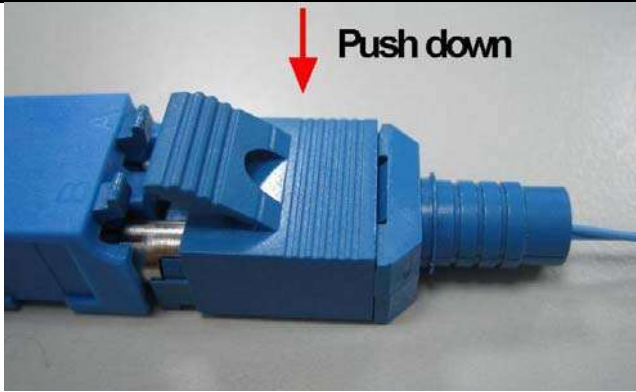
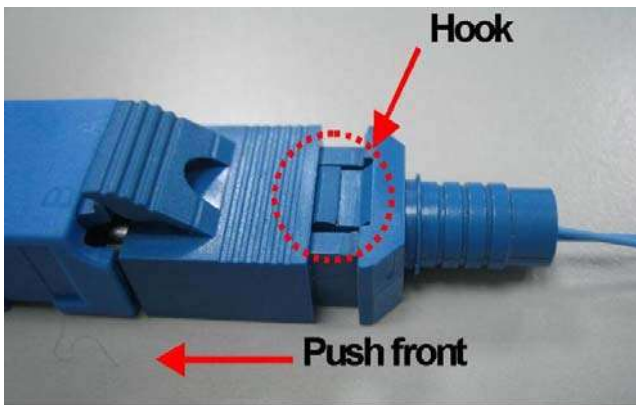

Fig 15
Fig 16
Step 19 Install the Upper Cover like in Fig15 & Fig 16